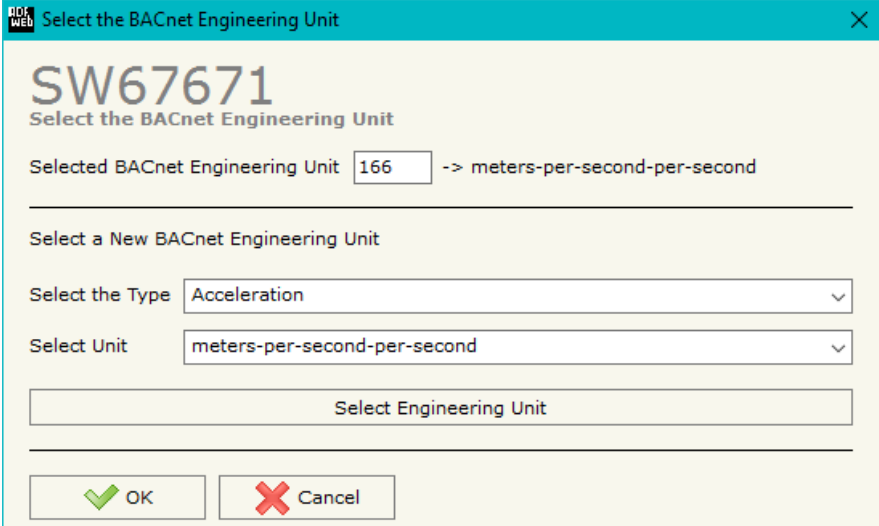

Figure 6: "Select the BACnet Engineering Unit" window
- In the field **“Eng. Unit”**, with double click the window **“Select the BACnet Engineering Unit”** appears (Fig. 6);